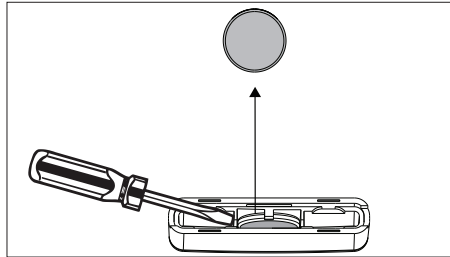

Figure 4.7: Remove magnet from magnet cover
2. Pry out the enclosed magnets from the magnet cover using a small flat head screwdriver or similar tool. See *Figure 4.7*.